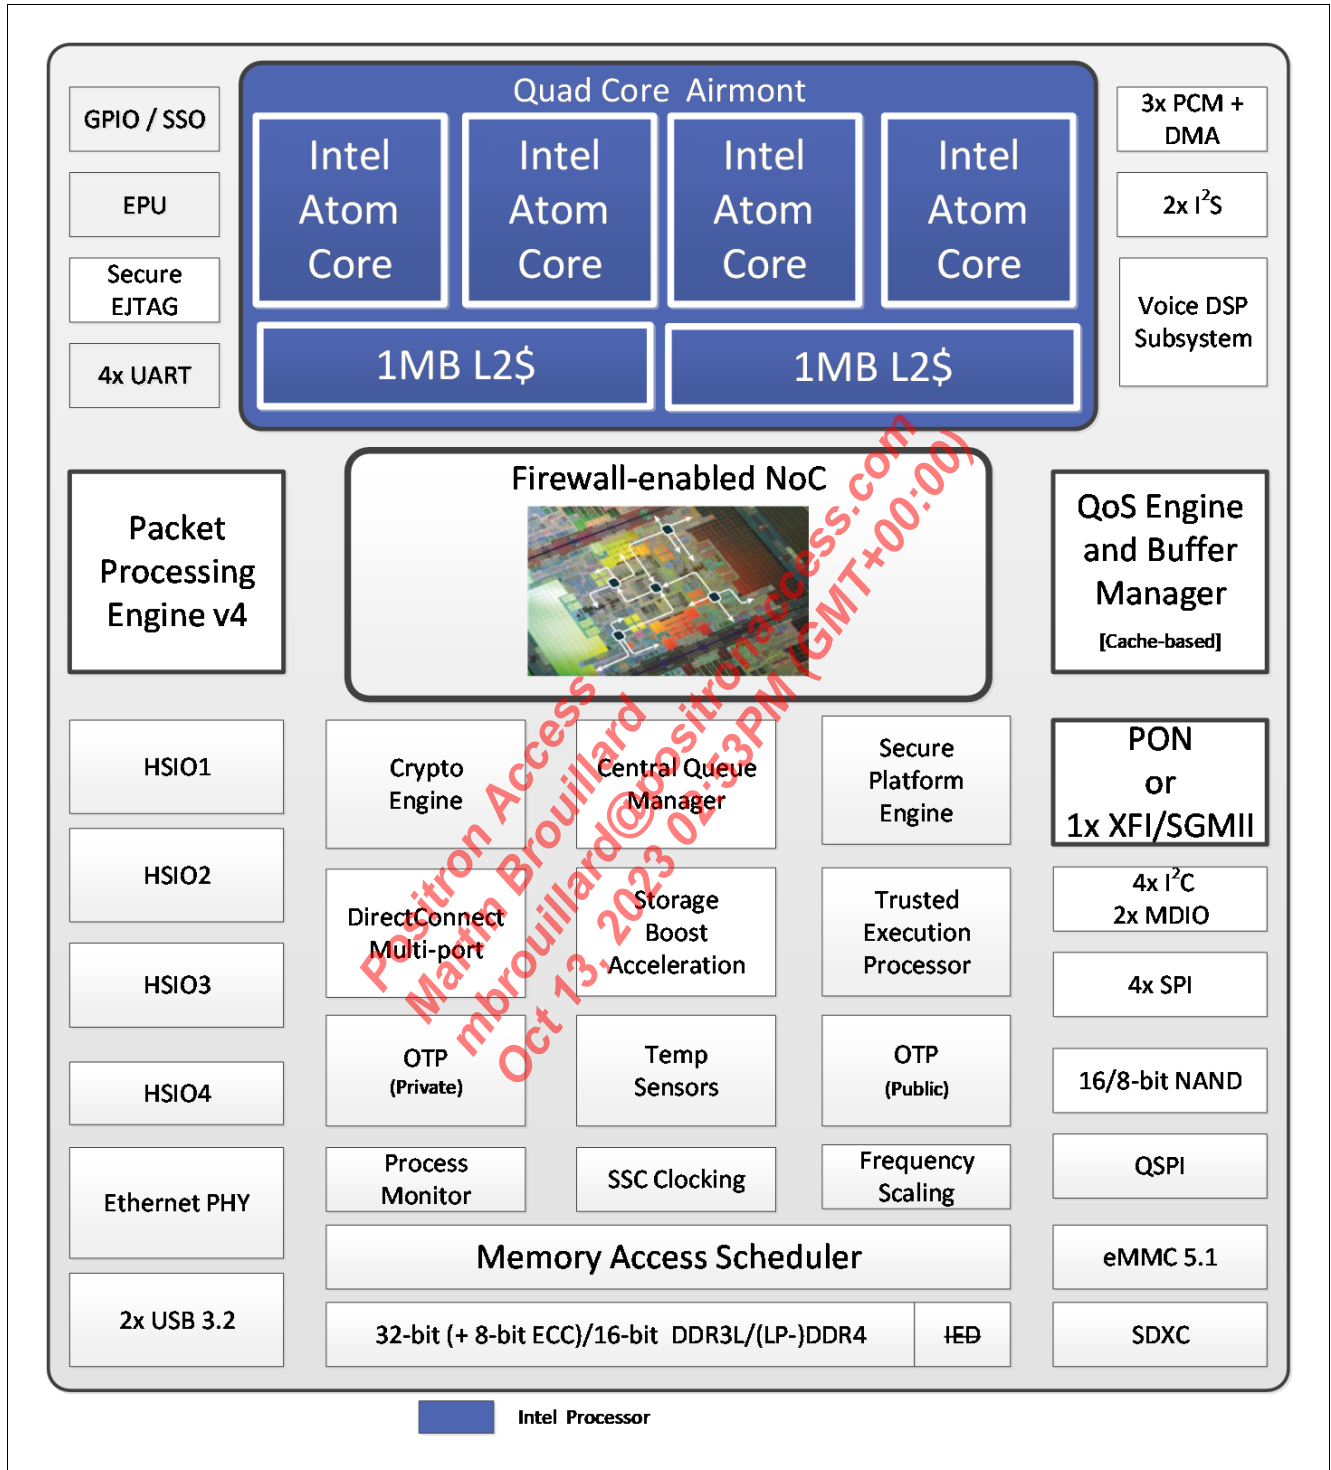

Figure 2 URX851 Block Diagram
Figure 2 shows the block diagram with the modules integrated for URX851.
The Direct Connect Accelerator (DC), DirectConnect in Figure 2, is a MaxLinear-developed mechanism designed to offload traffic from PCIe DC-compliant connected peripherals, such as MaxLinear Wi-Fi Access Point (AP) devices, from the CPU.